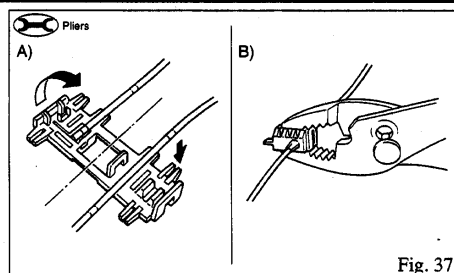

Fig. 37
- (14) A) Position the vehicle wire harness carefully, as shown, then fold the E-TAP connector along the alternate long and short dash line. (Fig. 37)
- B) Fold the vehicle wire harness into the E-TAP connector and press until the lock tabs on both sides of the connector click into their positions. (Fig. 37)